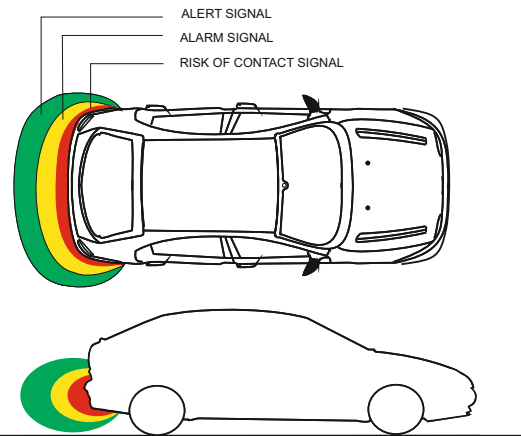

Fig. 6
c) Insert all plug-in connectors into the proper position on the Central Unit (ECU) as per Fig. 6.
The activation of the device is obtained by the insertion of the back gear or by pressing the activation button (if installed on front bumper) and confirmed by a signal of "OK". Once activated, the EPS-DUAL 2.0 generates around the bumper, on which is installed, a protection zone (Fig. 6).
- The distances will vary depending on the size of the obstacle and correspond to the central zone of the bumper; on the lateral edges the distances are less (see Figure 6)